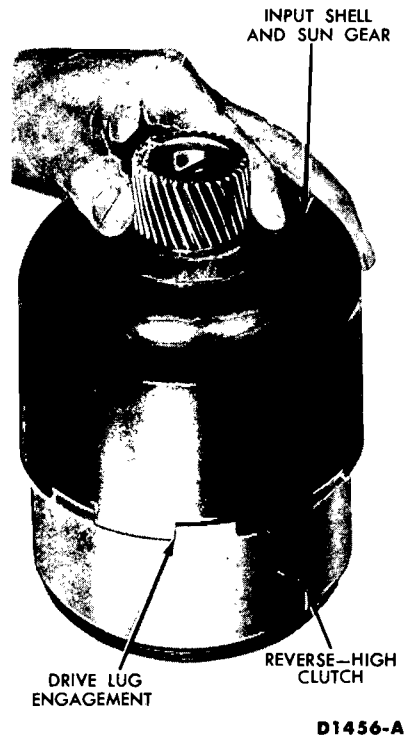

FIG. 115—Installing Input Shell
27. Install the input shell and sun gear on the gear train (Fig. 115). Rotate the input shell to engage the drive lugs of the reverse-high clutch. If the drive lugs will not engage, the outer race inside the forward planet carrier is not centered to engage the end of the sun gear inside the input shell. Center the thrust bearing race and install the input shell.